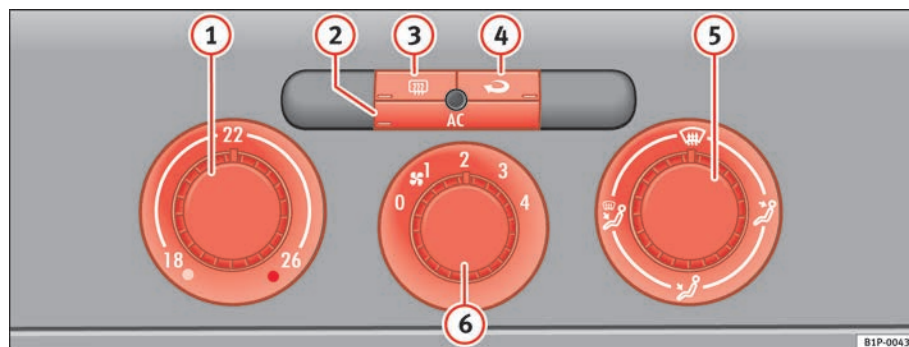

Fig. 108 On the dash panel: Climatic controls
- Using the controls ⇒ fig. 108 ① and ⑤ and the control ⑥ you can set the temperature, air distribution and the turbine speed.
- To switch a function on or off, press the appropriate button ②, ③ or ④. When the function is activated, the display window in the lower corner of the button is lit.
① Temperature selector ⇒ page 145
② Button [AC] – Heating, ventilation and air-conditioning system on/off ⇒ page 145
- ③ Button [⏏] – Rear window heating. The heating will be switched off automatically approximately 20 minutes after switching on. It can also be switched off beforehand by pushing the button.
- ④ Button [↻] – Air recirculation mode ⇒ page 146
- ⑤ Air distribution control ⇒ page 145
- ⑥ Blower switch. There are four speed settings for the air flow. The air flow should always be set at the lowest speed when driving slowly.
- Switch on the air conditioning using the button ⇒ page 144, fig. 108 .